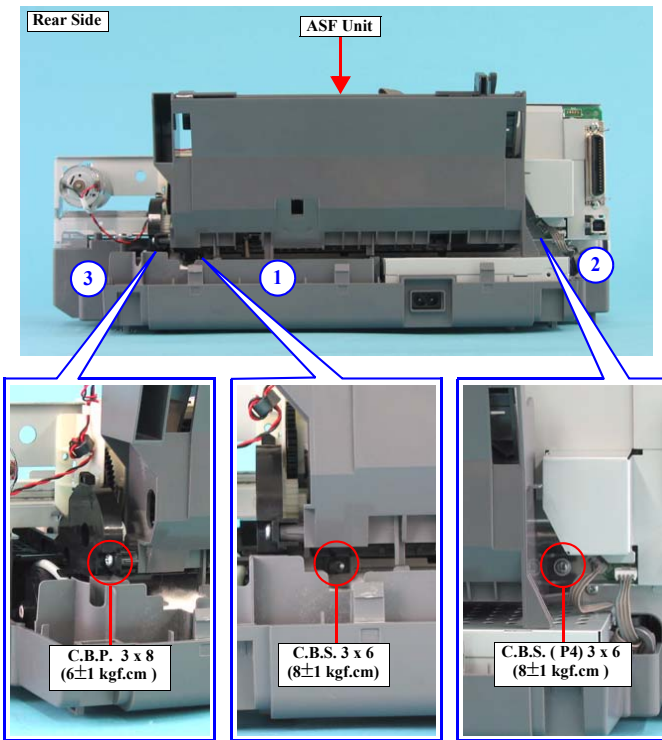

Figure 4-13. Removing ASF Unit
3. Secure the screws in the order shown in Figure 4-13.